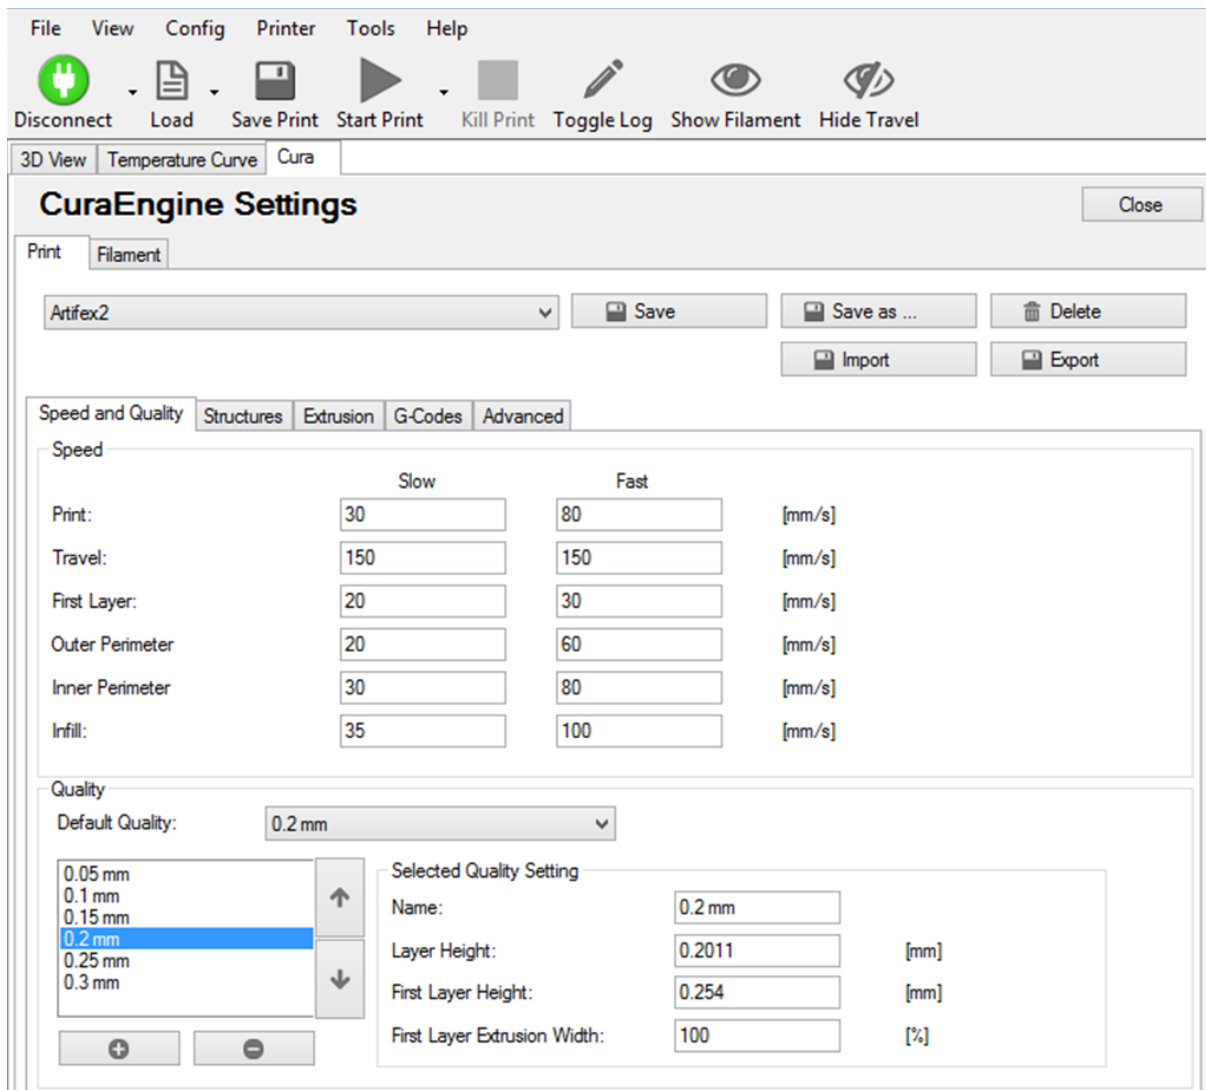

Figure 3.9: CuraEngine settings: Print
- Click the “Configuration” button, and a separate page, named “Cura”, will be added to the left window next to the “Temperature Curve” page (Figure 3.9), including two configuration sub-pages: Print and Filament. The “Print” configuration files can be downloaded from our website, for example “Artifex2.rcp”, and imported by clicking the “Import” button.